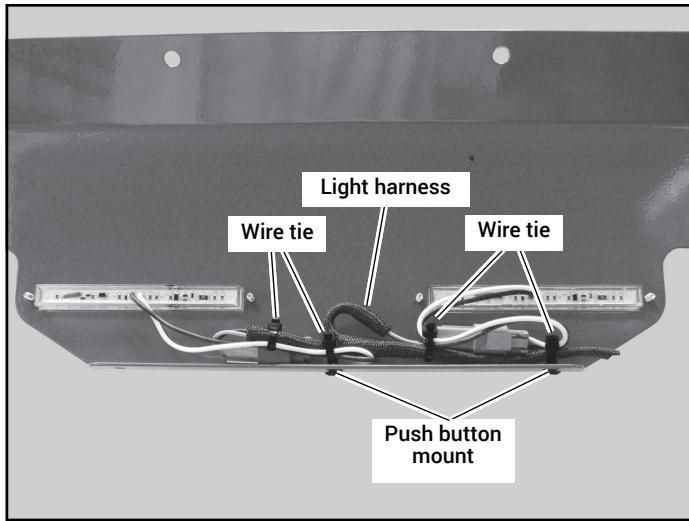
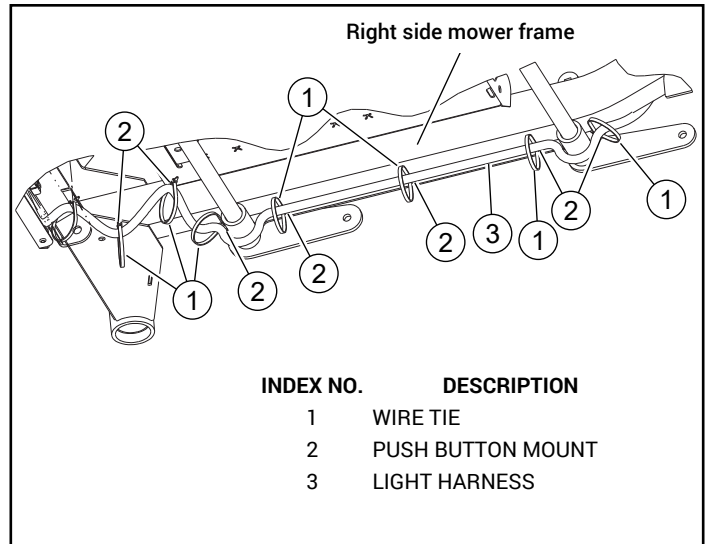

FIG. 2
FIG. 3
4. Insert push button mounts into the mounting holes located in the headlight mount. FIG. 2
6. Insert the push button mounts into the mounting holes located in the mower frame and headlight mount. FIG. 3
7. Route the light harness along the inside of the right side mower frame. FIG. 3
14. Secure the light harness along the inside of the right side mower frame using the wire ties and push button mounts as shown. FIG. 2 & FIG. 3